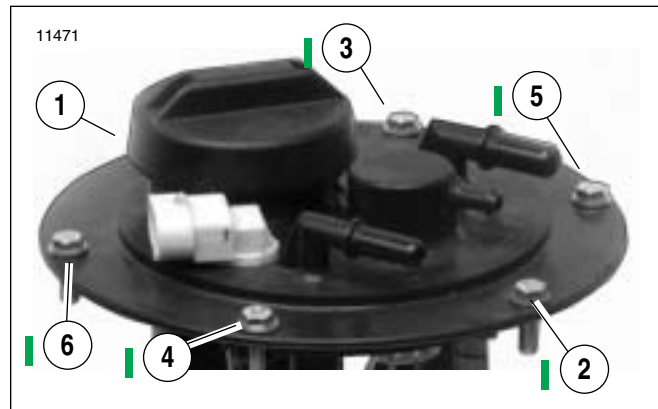

Figure 4-8. Torque Sequence
- See Figure 4-8. Install top plate retaining ring and fasteners. Tighten to 5-6 Nm (44-53 **in-lbs**).
- Mate the fuel pump and sender connector half (6)[141B] while supporting the top plate connector half [141A] with the opposite hand.